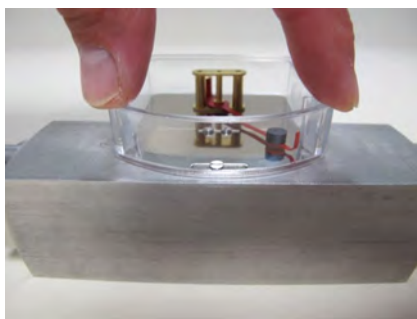

Fig. 63
14. ▶ Place the plastic housing on the display base plate and press down until it snaps into place (Fig. 63)